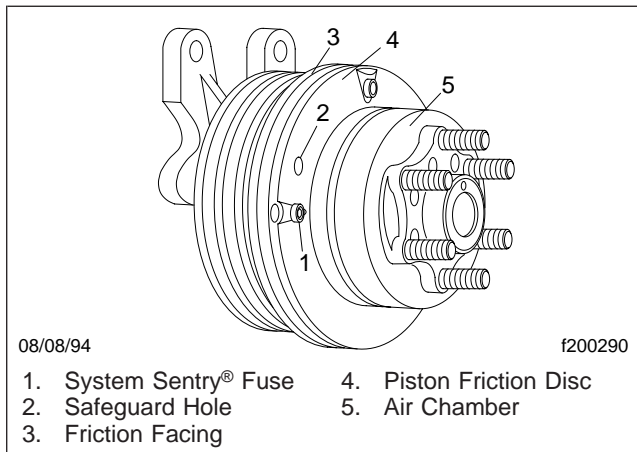
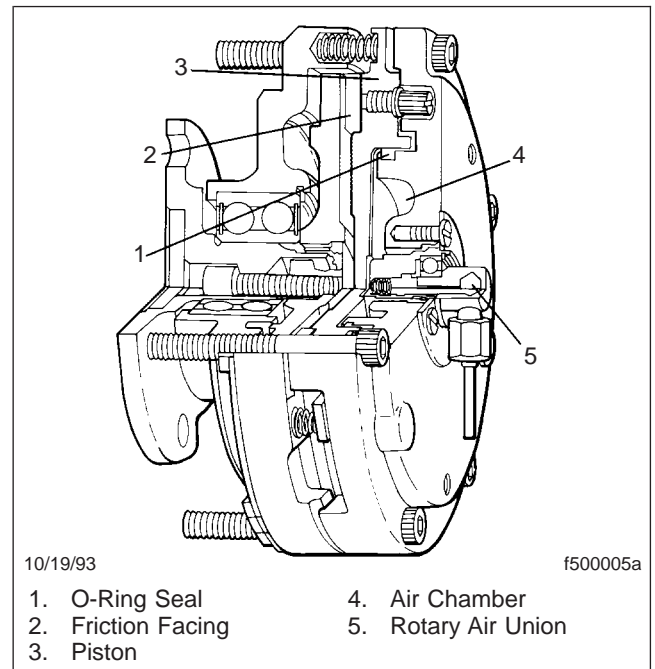

Fig. 3, Horton Type S and HT/S Fan Clutch
Fig. 4, Horton HT 550 Fan Clutch
4. Check for wear on the friction facing. See Fig. 3 (Type S and HT/S) or Fig. 4 (HT 550). Replace the facing if it is worn to 1/16-inch (1.6-mm) thickness or less on a Type S or HT/S fan clutch, or to 7/32-inch (5.6-mm) on an HT 550 fan clutch.
6.1 *Type S and HT/S Fan Clutches* (Fig. 3)
6.2 HT 550 Fan Clutch (Fig. 4)